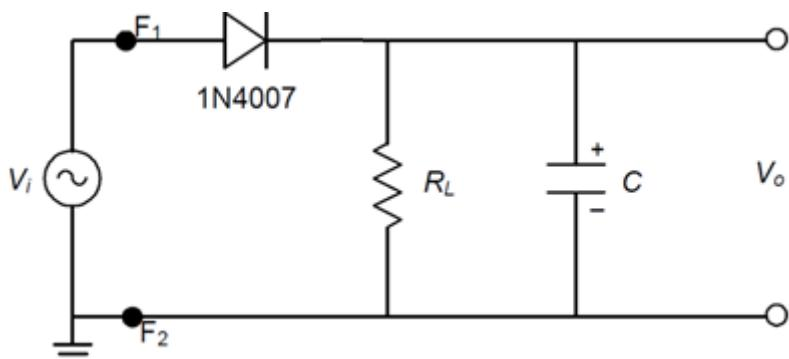

Fig.3
1. Connect a capacitor with $C=1 \mu\text{F}$ in the circuit with correct polarity as shown in Fig. 3.